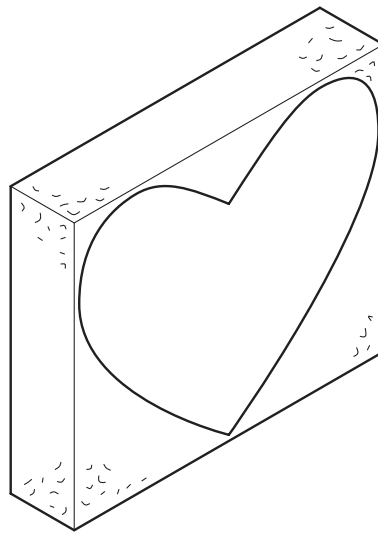

Fig. 4
- 10 Fig. 4 shows a three dimensional shape which is to be cut from a block of expanded polystyrene.